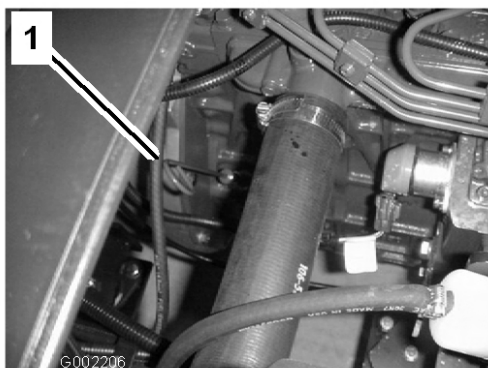

Figure 16
2. Remove the dipstick, located under the passenger seat, and wipe it with a clean rag (Figure 16). Insert the dipstick into the tube and make sure it is seated fully. Remove the dipstick and check the oil level.